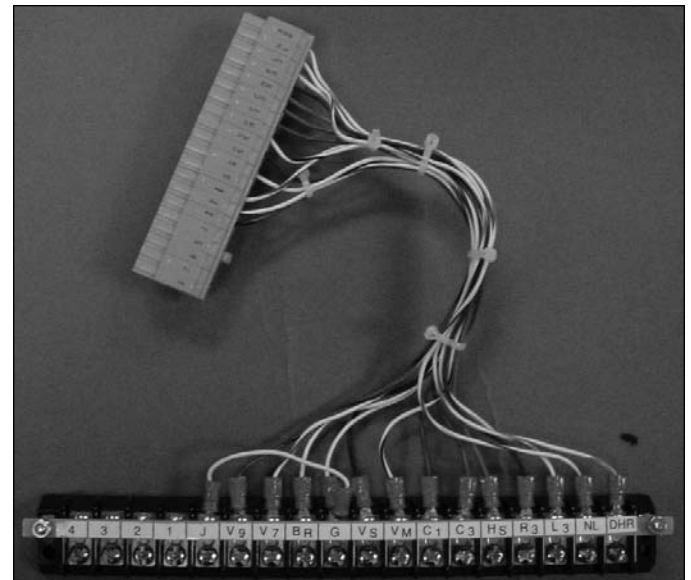

Figure 5.
8. Remove the harness adapter kit from the package (See Figure 5).